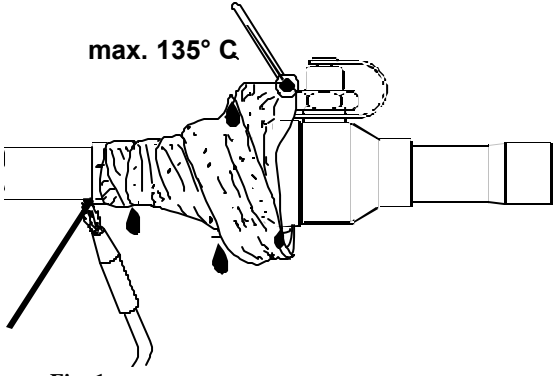

Fig. 1
- When brazing, direct the flame away from the main body of the valve to avoid possible internal damage. Use wet rags or other suitable heat protection (see Fig. 1).